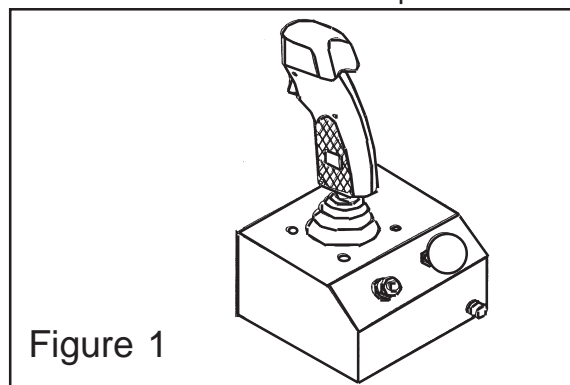

Figure 1
3. Install the new adapter (# 02969400), orifice plate and old adapter as shown in figure 1. Be certain that the groove in the orifice plate is installed as shown. The Groove should be away from valve.